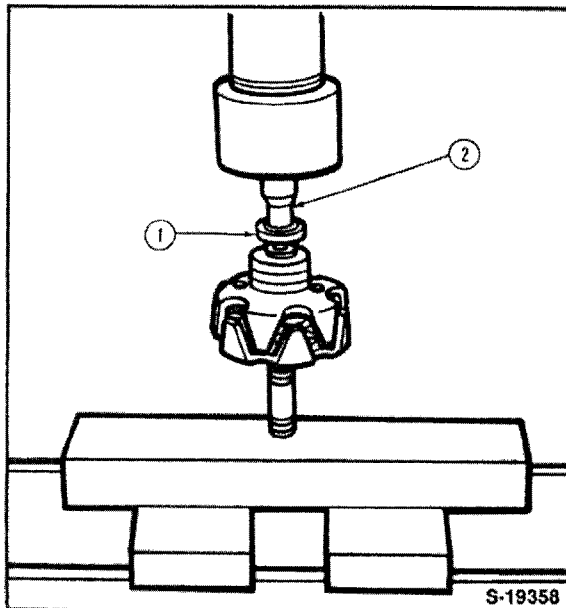

Figure 97
1. If the rotor shaft bearings were removed, install the bearings using a suitable screwdriver that contacts the bearing inner race only, Figure 97.